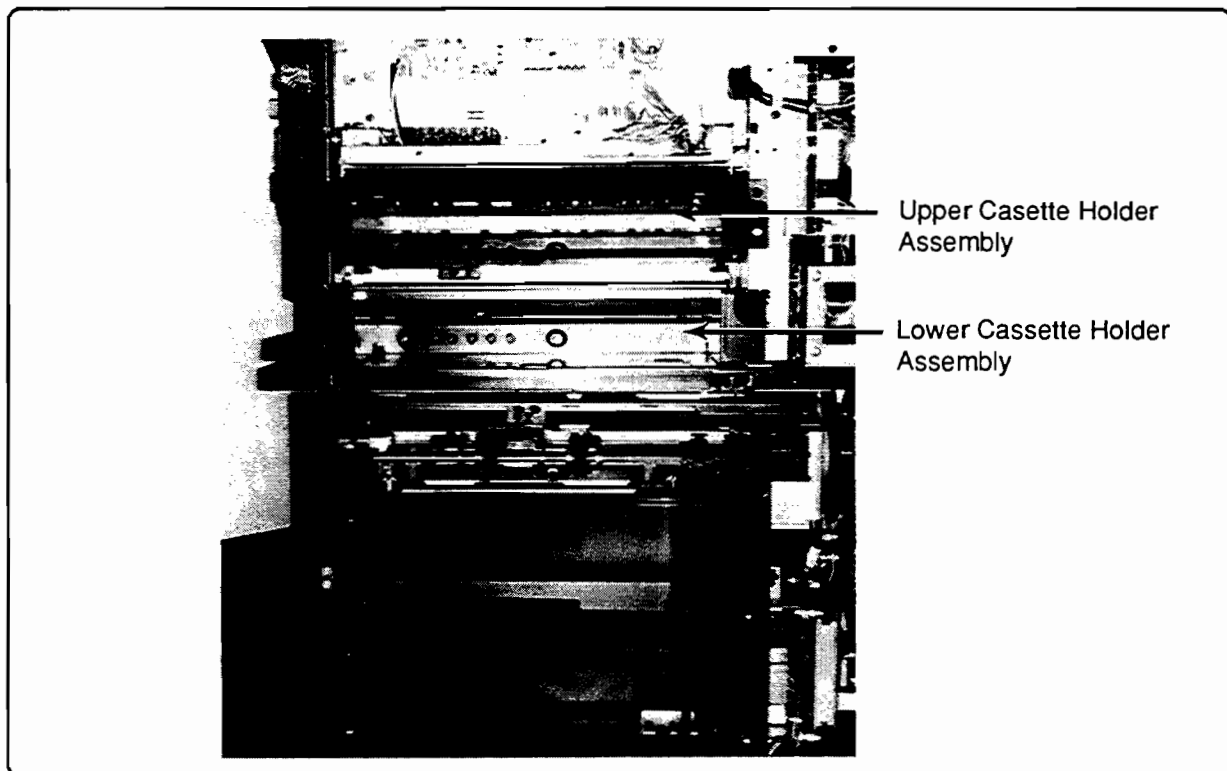

Figure 4-6. Cassette Holder Assemblies
1. Remove the Cassette Holder Assemblies, upper/lower (Figure 4-6).